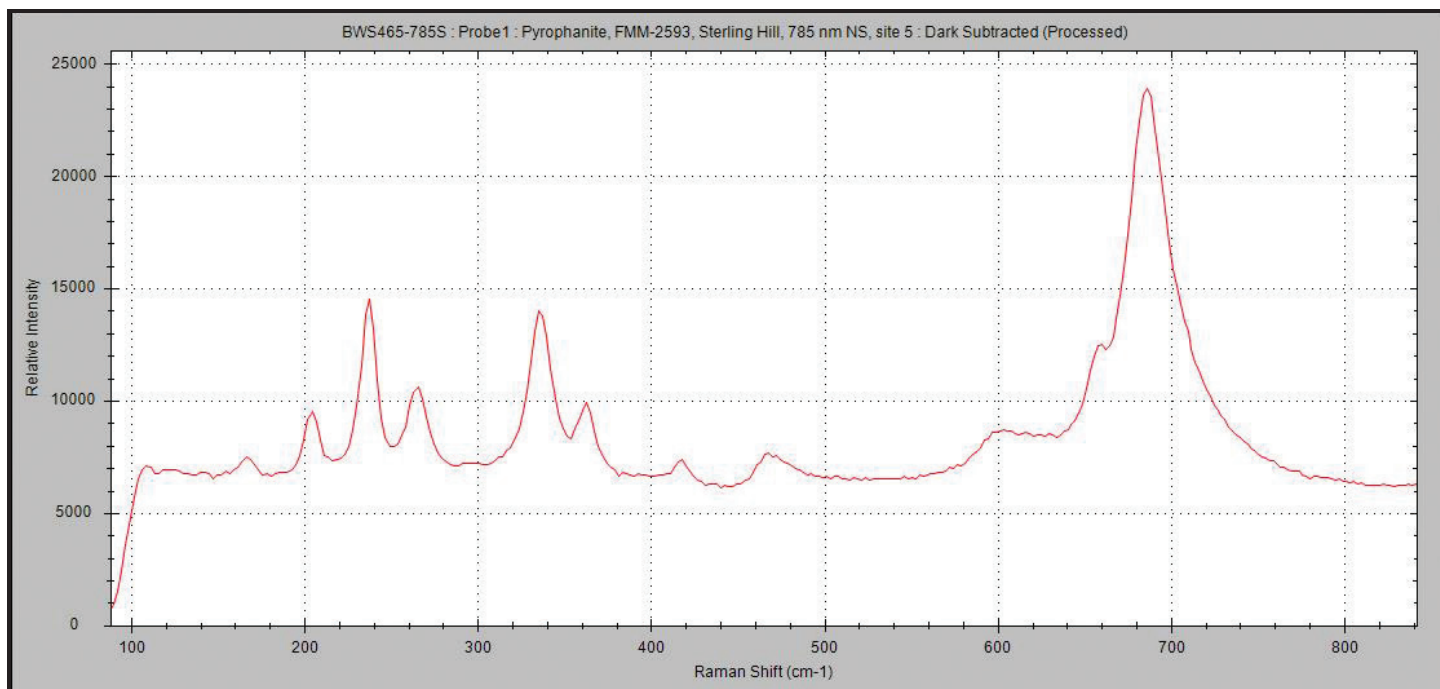

Figure 3: Raman spectrum of one of the pyrophanite crystals shown in Figure 2. Additional spectra were obtained from two other crystals, with identical results.
The rhodochrosite in this specimen fluoresces orange-red under LW ultraviolet (UV) light, with a hue somewhat more orange than is typical of most local calcite. The fluorescence MW is similar but somewhat weaker, and the SW response is dim. The fine-grained calcite locally encrusting the rhodochrosite blades fluoresces yellowish-tan in the MW photo (Fig. 3), and the green-fluorescing grains are willemite in the matrix rock. One can readily understand, from both the daylight appearance of this specimen and its fluorescence, why it was thought to be calcite, especially since fluorescence in rhodochrosite from Sterling Hill was then unknown.
Figure 3: The Shizume rhodochrosite specimen shown under MW UV. Note the orange-red fluorescence, similar in hue to that of much local calcite. The green-fluorescing mineral is willemite. The late-stage calcite encrusting some of the rhodonite blades fluoresces dim yellowish tan in this view. *Paul Shizume photo.*